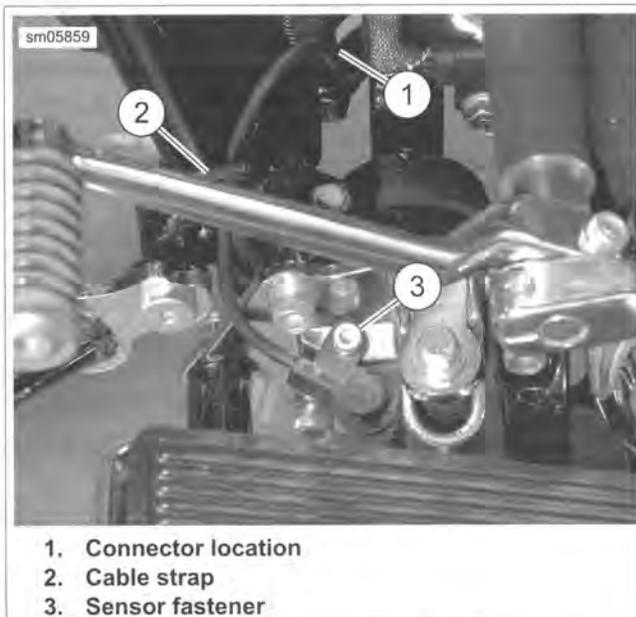

Figure 2-175. Jiffy Stand Interlock Sensor
See Figure 2-175. The sensor connector (1) is located below the voltage regulator.
2. See Figure 2-175. Cut cable strap (2) to release cable.
4. Remove fastener (3). Pull sensor from jiffy stand bracket.
2. See Figure 2-175. Install sensor into bore of jiffy stand bracket.
3. If reusing fastener (3), apply a small dab of LOCTITE 243 MEDIUM STRENGTH THREADLOCKER AND SEALANT (blue) to threads before installation. Install fastener. Tighten to 96-120 **in-lbs** (10.8-13.6 Nm).
6. Install **new** cable strap (2) to capture cable. Trim cable strap.